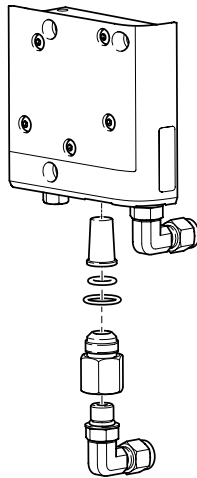

Figure 4-10. Fuel supply components.
- Inspect and clean all components. See figure 4-10.